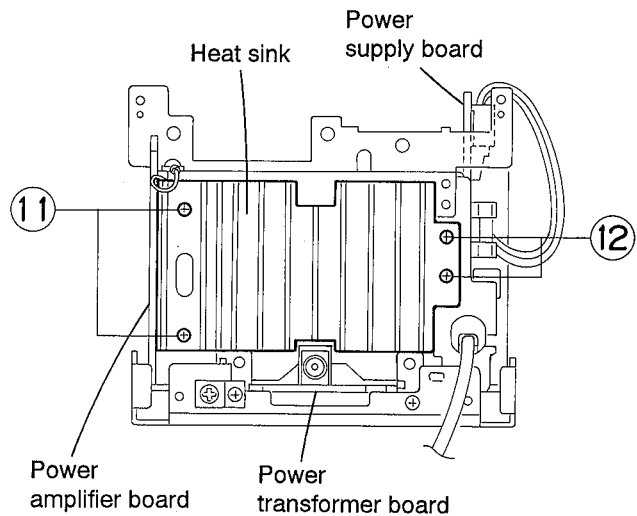
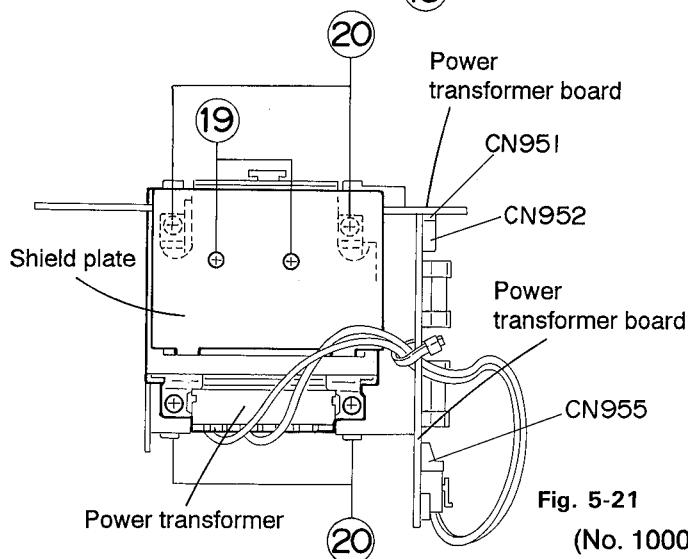

Fig. 5-16
Fig. 5-21
(See Figs. 5-16~19)
3. Removing the Transformer Unit (See Figs. 5-16, 20 and 21)
- After removing the two screws (17) retaining the power transformer. unit from the rear side of the power supply unit and the two screws (18) from the bottom surface, dismount the entire power transformer. unit from the bottom cover. Remove the heat sink, power amplifier P.C. board and bracket successively according to Steps 1 and 2 above.
- Remove the two screws (19) retaining the power transformer. shield plate and the four screws (20) retaining the power transformer. After disconnecting the harness from the connector CN955 of the power supply P.C. board, remove the power transformer. from the bracket (See Fig. 5-21).